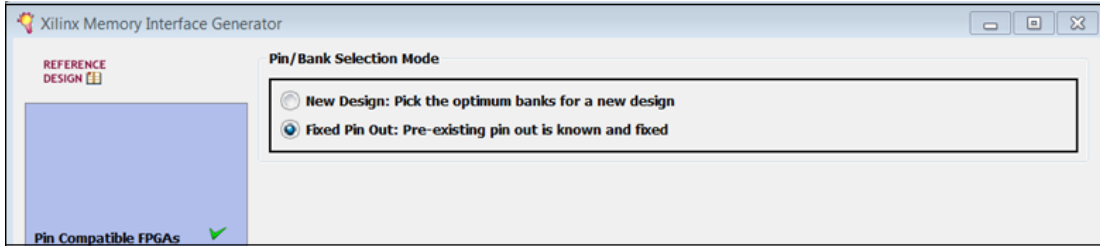

Figure 97: MIG Page: Pin/Bank Selection Mode
m. In the MIG Pin/Bank Selection Mode page, select **Fixed Pin Out**. Click **Next** (Figure 97).